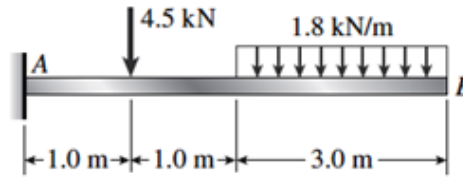

Figure: 1
4. A cantilever beam is loaded as shown in the figure 1. Plot the shear force and bending moment diagrams. Also find the reactions at the fixed support. What is the bending moment at a distance of 0.5 m from the fixed support? [10]